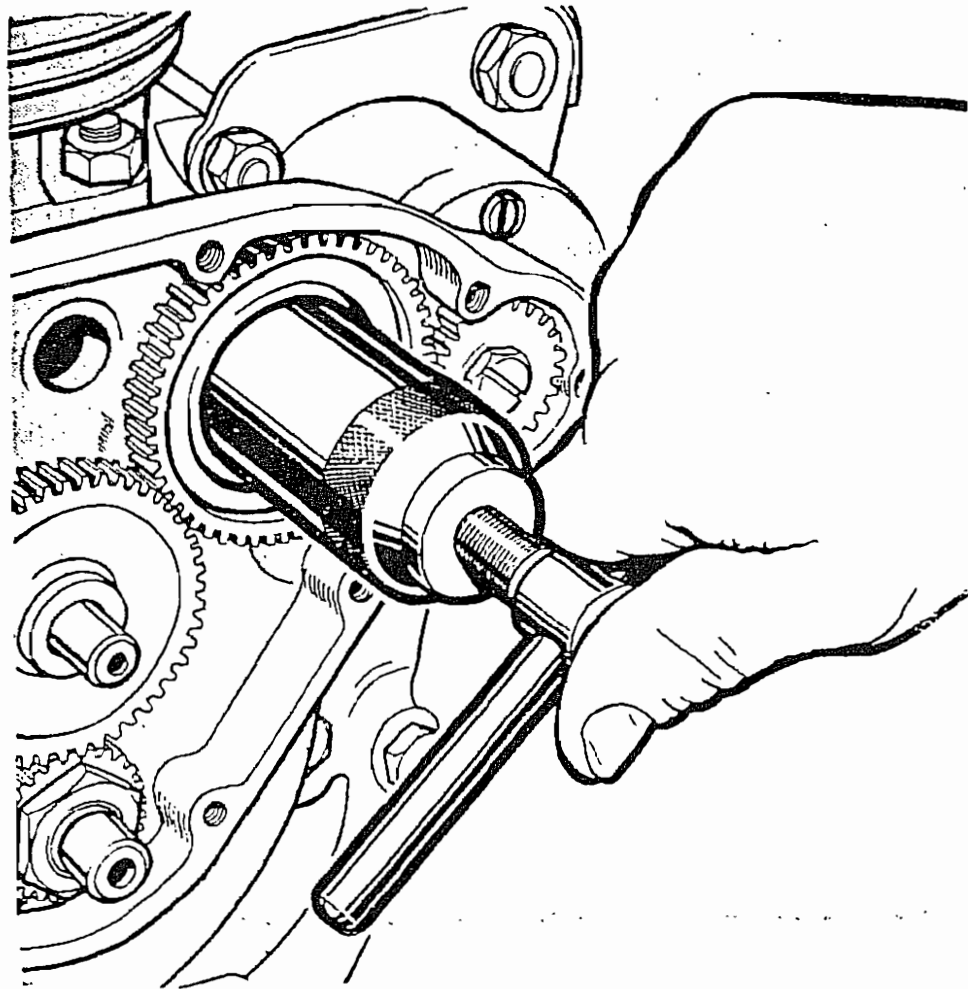

Fig. 11. REMOVING THE CAMWHEEL
**Camwheels.** If the bushes in the timing side crankcase are not worn, it is unnecessary to remove the camwheels as the crankcase can be split without detaching them. The removal of these gears necessitates the use of the special withdrawal tool Z89. Screw the body of the tool "C" on to the threaded portion of the camwheel (See Fig. 11), and by screwing the extractor bolt "A" in the camwheel is withdrawn from the shaft.